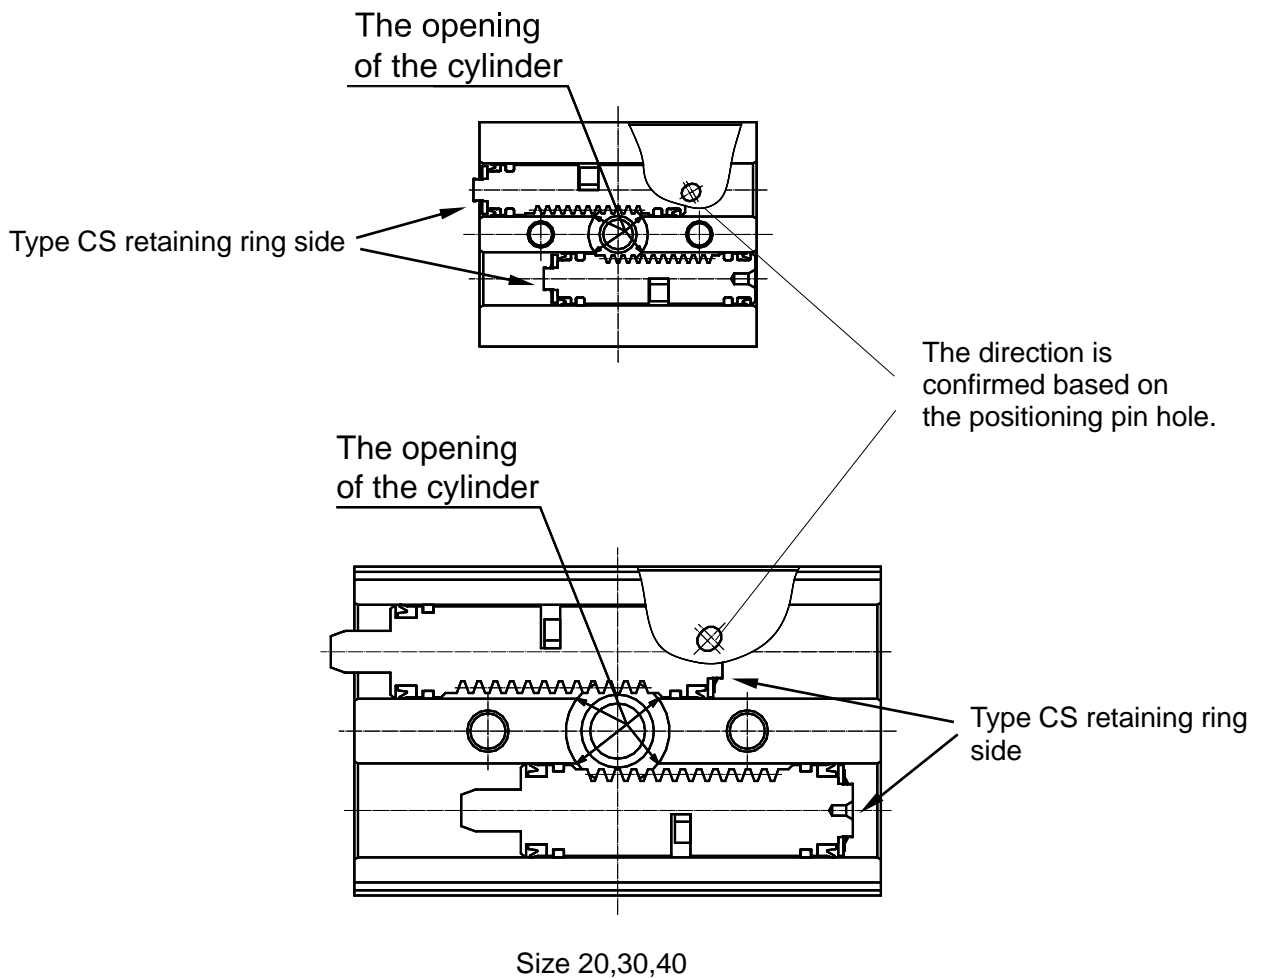

Fig.19
- (2) Insert the piston Assembly to the body. At this time, the piston seal passes the opening of the cylinder and should be pressed inward not to be scratched. Also, mind the mounting orientation of the piston. (See fig.19)